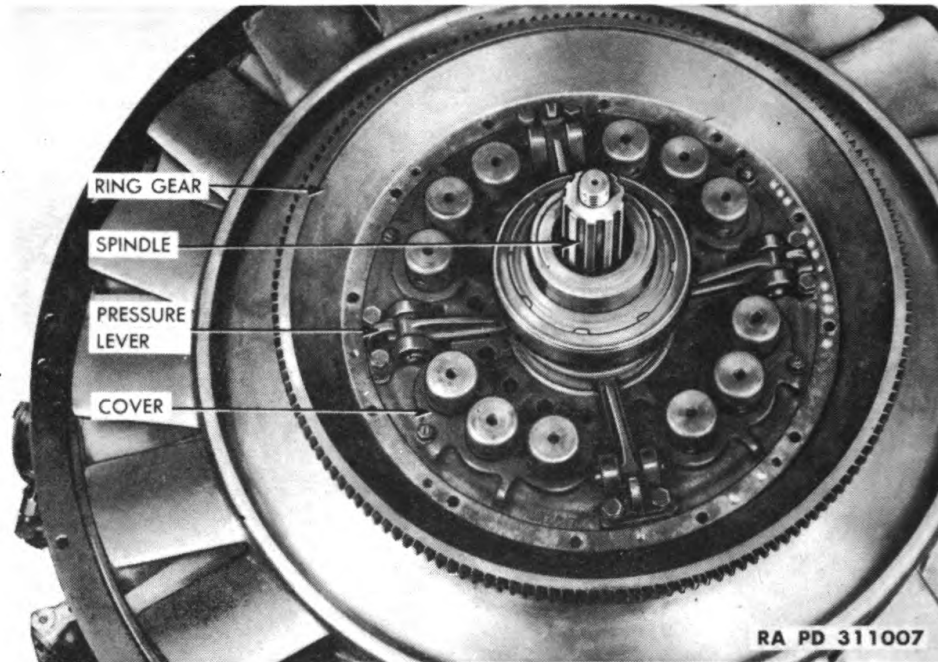
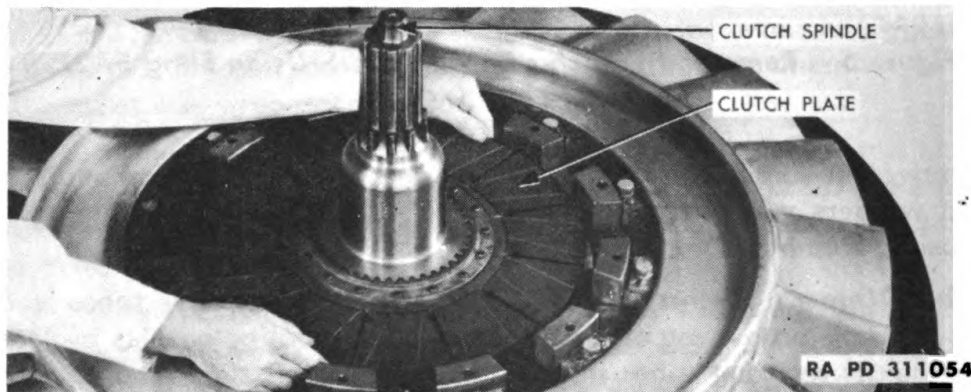
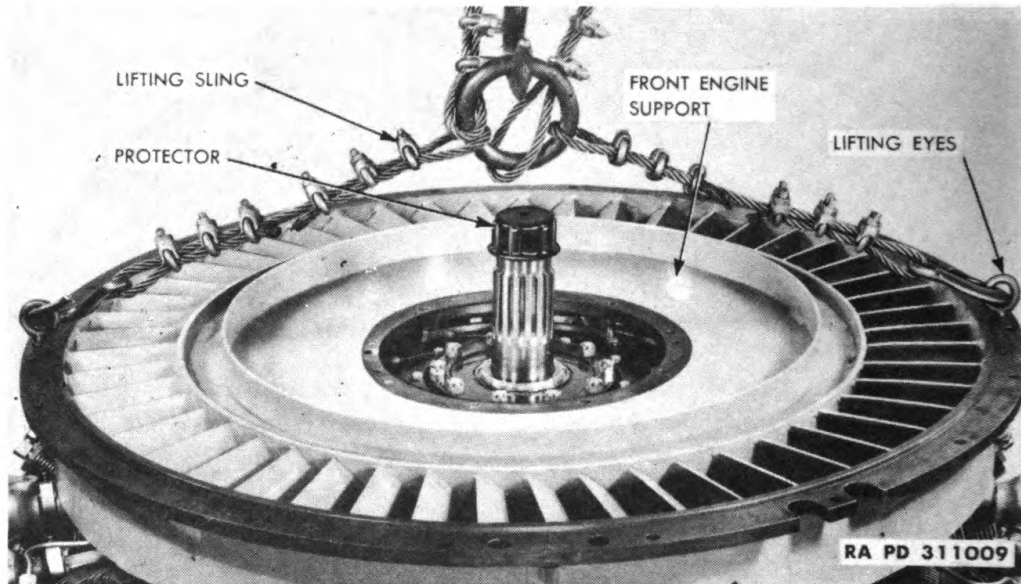

Figure 6 — Clutch Cover and Spindle
Figure 7 — Removing Clutch Plates
Figure 10 — Removing Front Engine Support, Using Sling 5A2228, Protector 5A2342, and Eyes 5A2318
c. **Remove Flywheel Clutch and Fan.** Remove cap screws holding ring gear and clutch cover assembly to flywheel, and lift off cover assembly and ring gear (fig. 6). Remove clutch spindle assembly (fig. 6). Remove intermediate pressure plate and driven plates (fig. 7). Loosen flywheel retaining nut, using wrench (5A2303) (fig. 8). Install lifting eyes (5A2318) in flywheel flange, and lift flywheel and fan assembly from engine (fig. 9). Remove front engine support using lifting eyes (5A2318) in tappet holes (fig. 10).